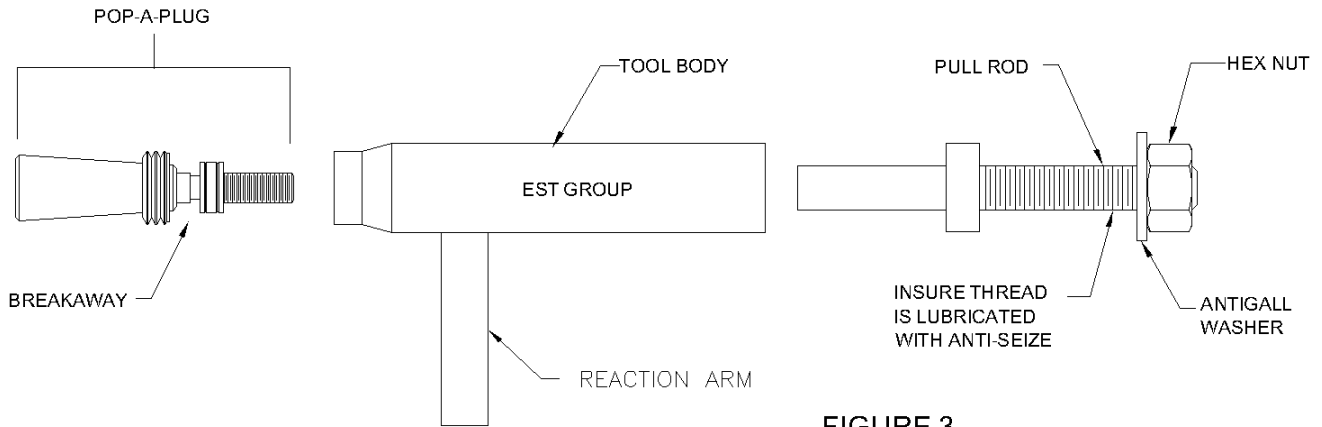

FIGURE 3
2. Slip the antigall washer over the threaded section of the pull rod and engage hex nut onto pull rod by several turns by rotating hex nut clockwise (Refer to Figure 3). Insert this assembly into the back end of the tool body. Fully engage the male thread of the Pop-a-Plug into pull rod by rotating clockwise then loosen plug by 2 full turns by rotating the plug counterclockwise. The plug is loosened to prevent any torsion loads from being accidentally transmitted to the breakaway. A torsion load will cause premature fracture of the breakaway and will lead to an improperly installed plug. Hand tighten hex nut by rotating clockwise to remove slack in assembly.